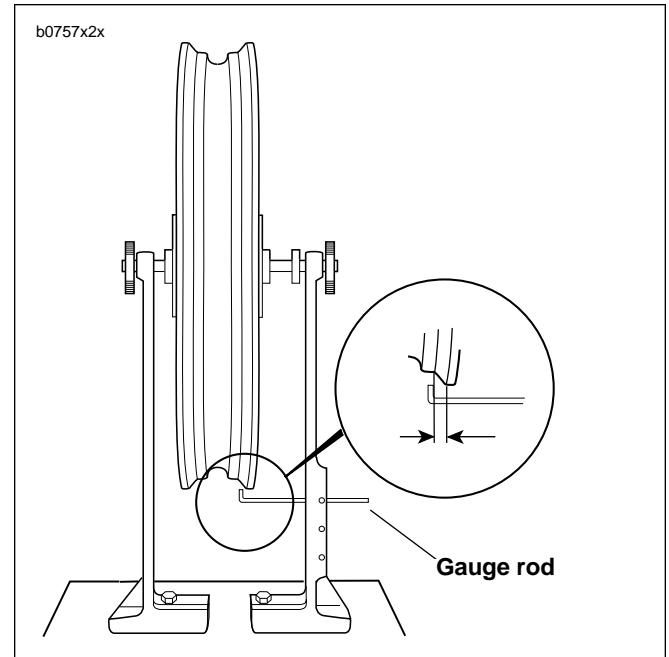

Figure 2-28. Checking Cast Rim Lateral Runout Using Wheel Truing and Balancing Stand (HD-99500-80)
1. See Figure 2-28. Install truing arbor in wheel hub and place wheel in WHEEL TRUING AND BALANCING STAND (Part No. HD-99500-80).